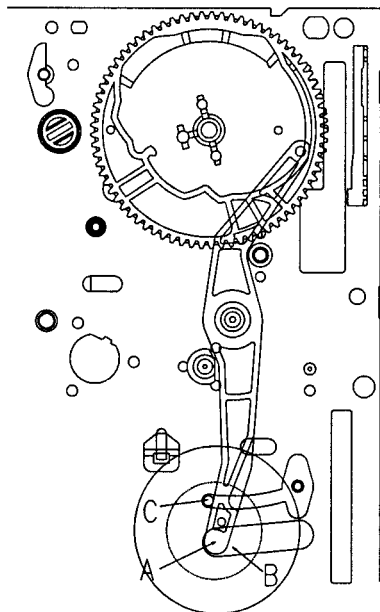

Fig.4-2 DATUM POSITION OF RELAY LEVER & CAM GEAR
- b. Make sure that part "A" of the RELAY LEVER, when assembled in the CONNECT PLATE, is fully rotated to the left side of "B" of the MAINBASE, and is touching boss "C" of the MAINBASE as, shown in Fig.4-2.